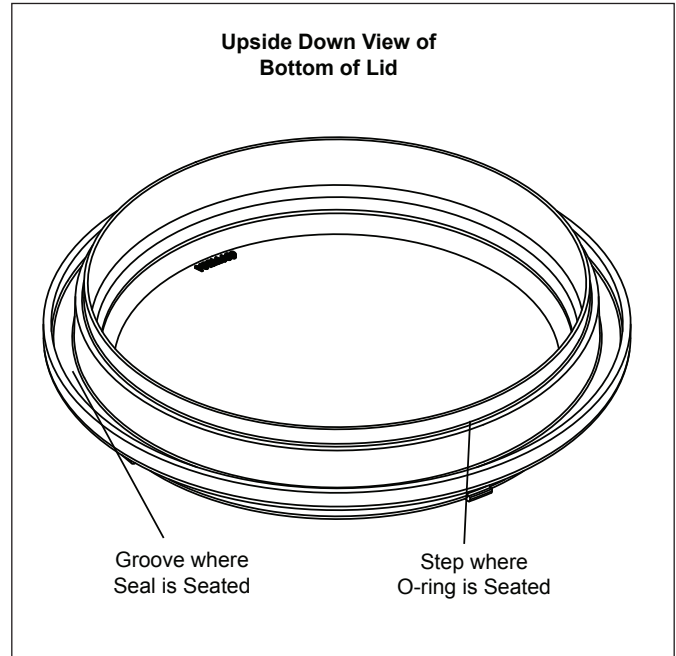

Figure 6. Placement of Blue Pressure Test O-ring
2. Place the blue o-ring on the step located ¼" from the bottom of the lid. See Figure 6.
NOTE The blue o-ring sits approximately ¼" away from the seal. See Figure 6.